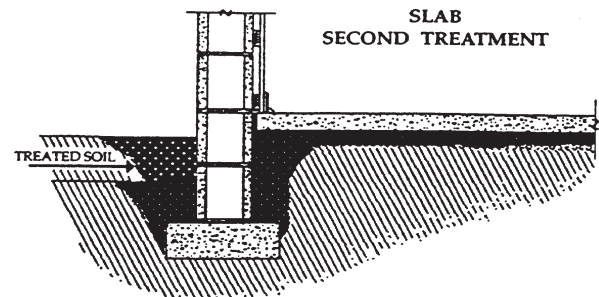

Figure 6-2. Application of a termiticide to soil around the foundation.
**Vertical Barriers.** Trenching and rodding along the inside and outside of the foundation, including porches and patio is used to apply the termiticide. (**Figure 6-2**).